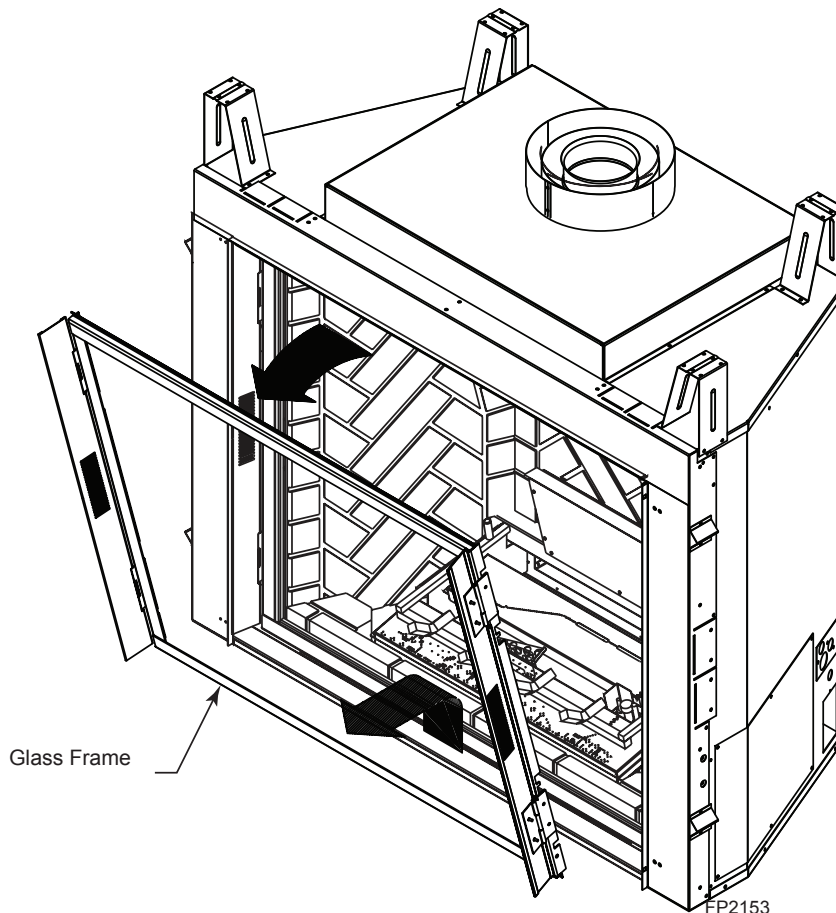

**Figure 57 -
4. Remove glass frame by releasing the three latches located at the top of the firebox. Tilt glass away from the unit, lift glass frame up and away from the unit. *Figure 57*